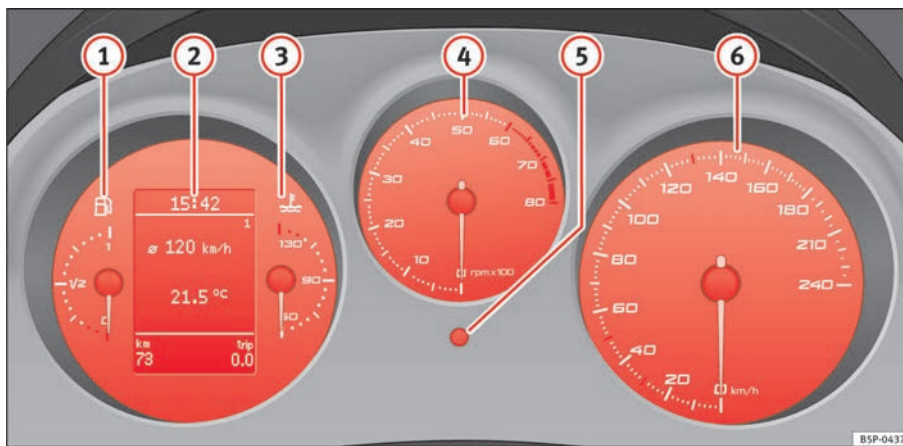

Fig. 33 Detailed view of instrument panel: instrument panel
The start of the red zone ⇒ page 55, fig. 33  indicates the maximum engine speed operating at service temperature. However, it is advisable to change up into a higher gear, move the selector lever to D or lift your foot off the accelerator before the needle reaches the red zone.
- Turn the setting knob ⇒ page 55, fig. 33  clockwise until the first “click” to set the hour. The hour will flash. To change the hour, press the button.
The right-hand counter registers the short journeys. The last digit indicates steps of 100 metres. The trip recorder counter may be reset by holding down the reset button ⇒ page 55, fig. 33 ⑥ for a few seconds.